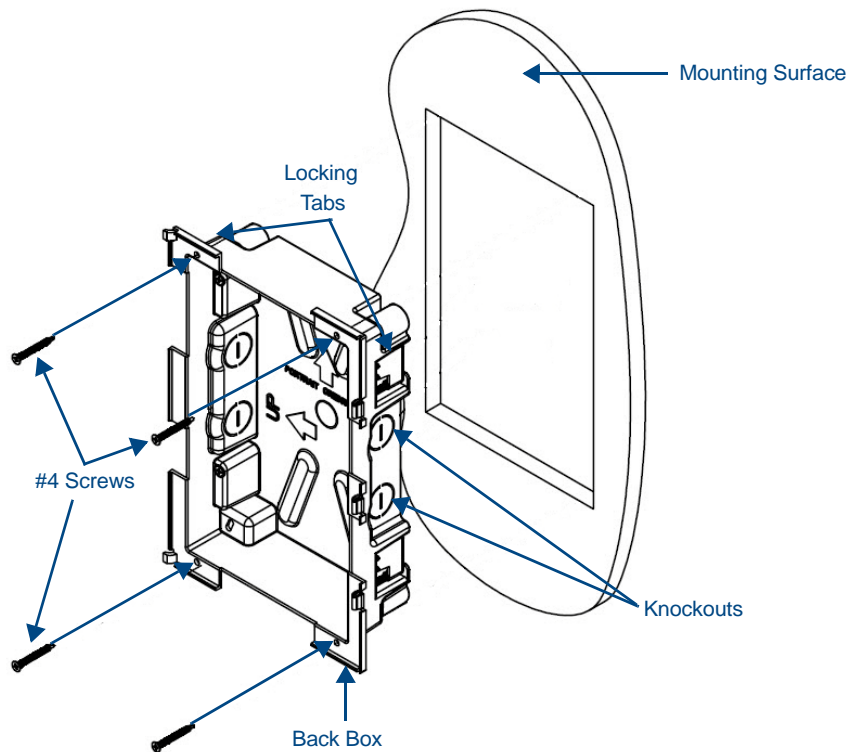

FIG. 16 MXD-1000 Back Box Installation (Portrait)
4. Thread the incoming Ethernet and Micro-USB wiring (if Micro-USB access is desired) from their terminal locations through the surface opening (FIG. 16). *Leave enough slack in the wiring to accommodate any re-positioning of the panel.*
5. Remove the back box knockouts (FIG. 16) and thread the incoming wiring through the knockout holes. To facilitate installation, thread the Ethernet cable through a bottom knockout (Landscape) or a right-side knockout (Portrait), and the Micro-USB or USB cables through a top knockout (Landscape) or left knockout (Portrait)
9. For additional strength, #4 mounting screws (not included) may be secured through circular holes located at the left and right sides of the MXD-1000 (FIG. 16). In order to prevent damage to the touch panel, make sure that these are flush with the back box.